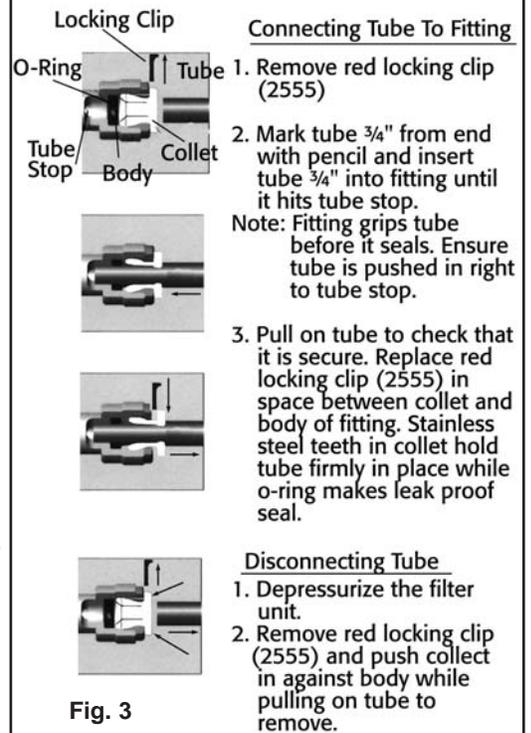

Fig. 3
9. Connect tube coming from valve (1503) to inlet fitting of filter on side of filter with arrow running into filter head (see Fig. 3). Now connect tube from union to outlet fitting of filter on side of filter with arrow running out of filter head (see Fig.3).
9. Branchez le tube de la valve (1503) au raccord d'entrée du filtre (la flèche pointe vers le filtre - voir fig. 3). Branchez ensuite l'autre tube au raccord de sortie du filtre (voir fig.3).